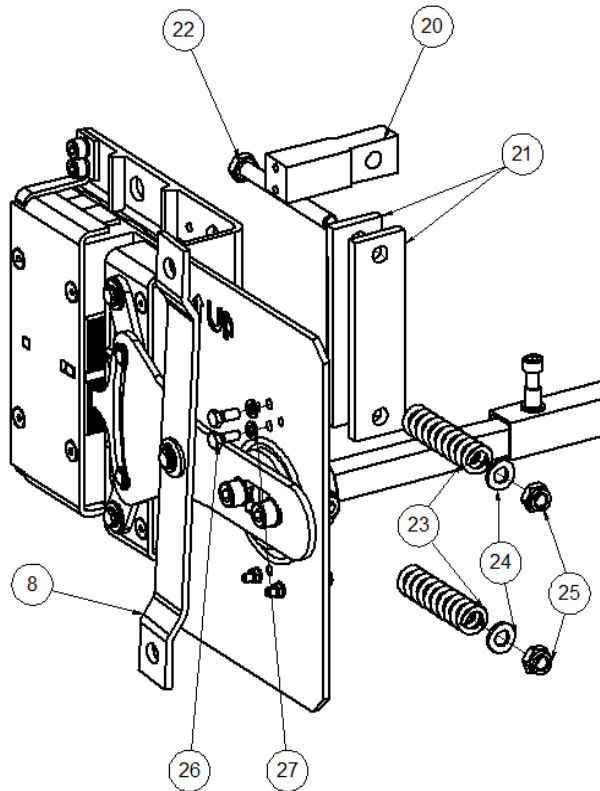

Figure 14: Installation of the tensor assembly
Install the tensor support (20) as indicated in Figure 14, and fasten using DIN 933 M5x14 bolts (26) and DIN 127 M5 washers (27). Then align the two axle supports (21) with the tensor support, and subsequently insert the DIN 931 M8 X 100 bolt (22) through the drill hole of the support axle (21) and of the tensor support (20). Introduce the spring and complete by fastening the assembly using a DIN 125 M8 washer (24) and a DIN 985 M8 lock nut (25)..